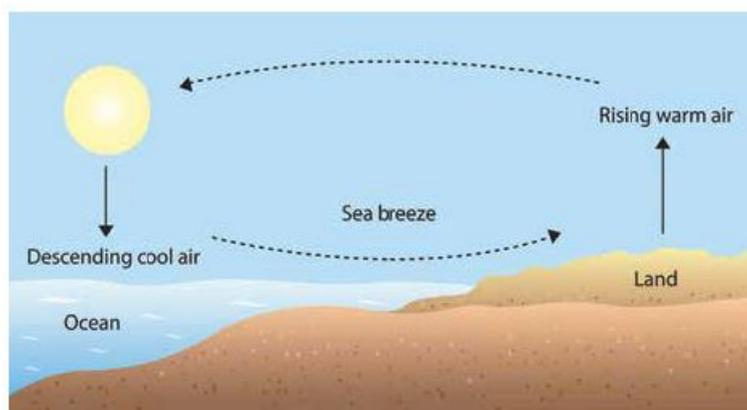

Fig. 1. Local winds are produced by the differential heating of land and sea by the Sun.
Like with most things, nature provides a clue — the Sun is the ultimate source of energy for all life on Earth. Thus, energy can be harvested directly from sunlight using devices called photovoltaic (PV) cells; or, indirectly from wind power, produced as a result of the uneven heating of the earth's surface by the Sun (refer **Fig. 1**).